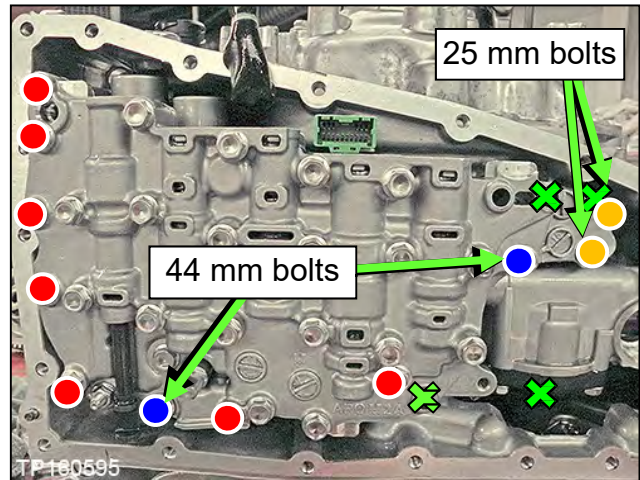

Figure 141
114. Install the Control Valve with eleven (11) mounting bolts (Figure 141).